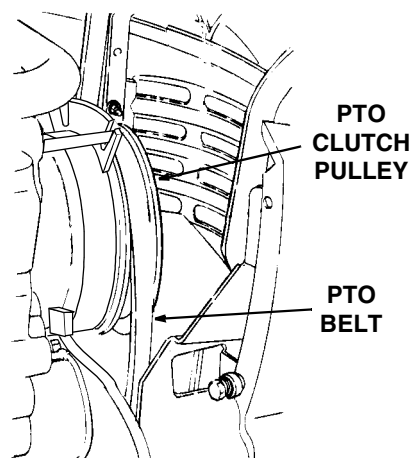

Figure 50
9. Open the tractor hood and remove the forward end of the PTO belt from the PTO clutch pulley (Refer to Figure 50).